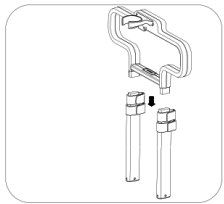

Fig. 3
- Make sure the knob tight after insert the body. Fig. 3.